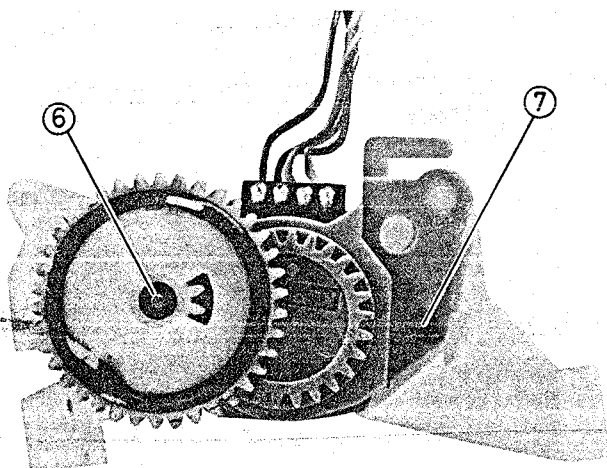

Fig. 2-79 Mechanism State Switch Removal
6. Remove the washer and remove the cam gear T. (See Fig. 2-79)
7. Remove one (1) screw holding the mechanism state switch.